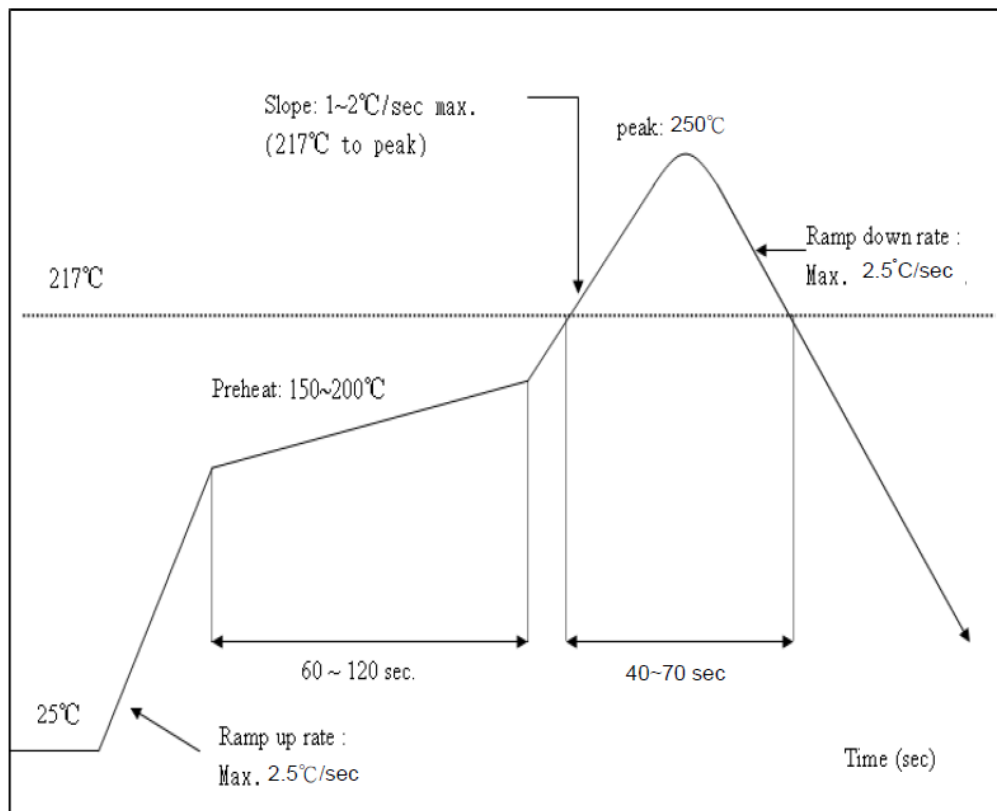

Figure 10 Temperature Curve of Secondary Reflow
- SMT patch should on the basis of reflow profile diagram, maximum temperature 245℃, reflow profile diagram is shown in figure 10;